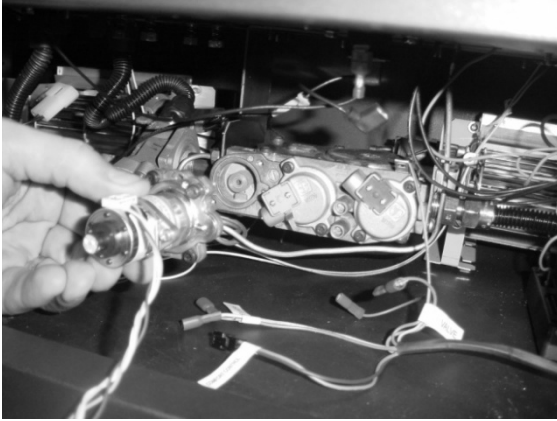
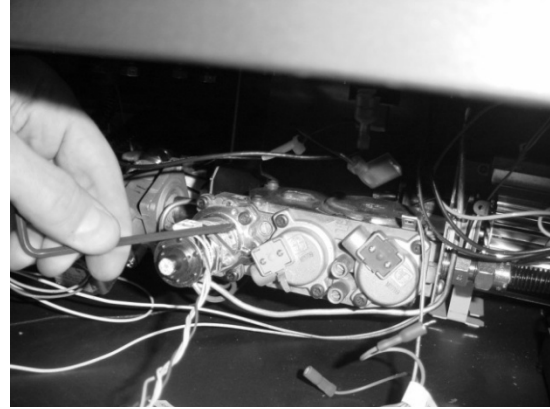

Figure 14
Figure 15
- 10 The stepper motor (adjustable regulator) has an installation sheet included with it – make sure to follow all of the directions. Place the stepper motor on the gas control valve (see Figure 14) – **MAKE SURE IT IS CORRECTLY ORIENTED.** Secure using the screws included with the motor (see Figure 15) – tighten to 25 Lb-inches. Leak test this area after installation to verify proper installation.